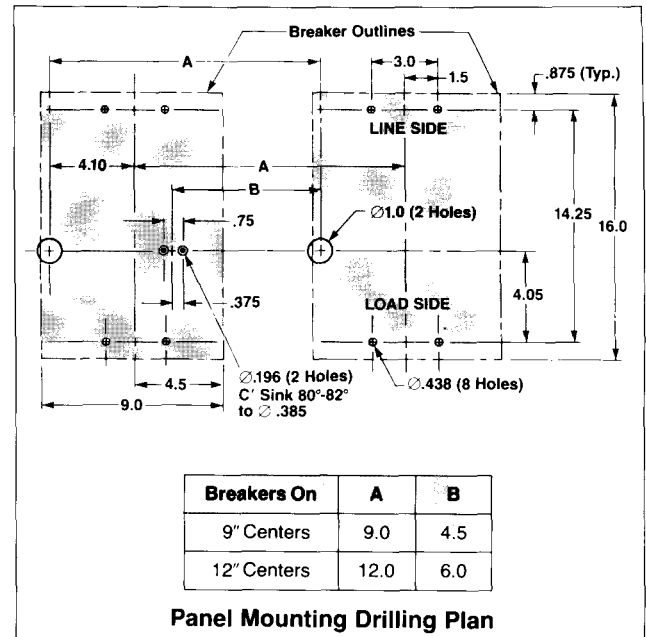

Figure 5
A. Drill panel as shown for panel mounting (circuit breakers on 9 or 12 in. centers), (Figure 5). For plug in mounting, see Figure 6.